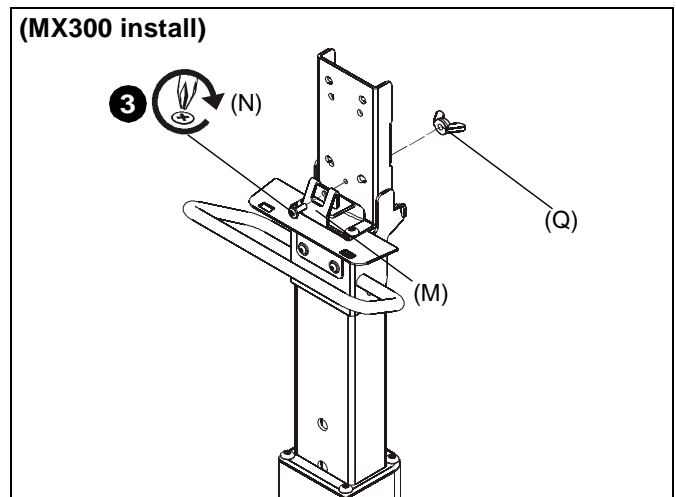

Figure 7
3. Use #10-24 x 1/2" Phillips pan machine screw (N) and #10-24 wing nut (Q) to secure MX300 clip (M) to column assembly's interface plate. (See Figure 7)